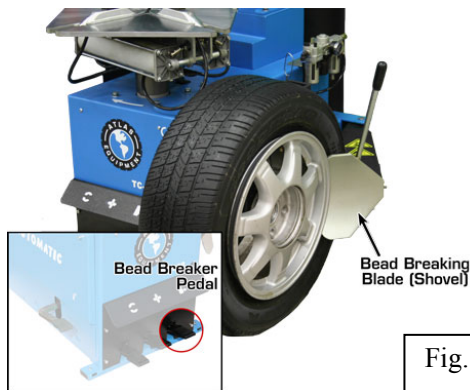

Fig. 5
**STEP 1:** Remove pin, flat washer and snap-ring (322, 320, 319, Fig.5) from the hardware kit.
**STEP 2:** Place the rubber pad (329, Fig.5) on to the Bead Breaker Cylinder shaft (310, Fig.5) and slide it up to the body assembly (2, Fig.3) such that it covers the slot (see photo).
**STEP 3:** Insert the Bead Breaker Arm assembly (321, 323, 315, Fig. 5) into the bracket on the right rear of the body assembly. Slide the pin (322, Fig.5) through the body assembly and through the Bead Breaker Arm assembly (321, 323, 315, Fig5). Install the flat washer and place the snap-ring on the bottom of the pin (322, Fig.5) using snap-ring pliers.
**STEP 4:** Slide the Bead Breaker Arm assembly (321, 323, 315, Fig5) on to the Bead Breaker Cylinder shaft (310, Fig.5) as shown above. Place the flat washer (318, Fig5) and thread the locking nut (317, Fig5) on to the Bead Breaker Cylinder shaft (310, Fig.5).
**STEP 5:** Thread the locking nut (317, Fig5) on to the Bead Breaker Cylinder shaft (310, Fig.5) using a 24 mm deep well socket until about a half inch of thread shows beyond the locknut.
**STEP 6:** Attach the spring (330, Fig.5) on to the side of the body assembly near the Bead Breaker Arm assembly pivot bolt. Insert the brake tool into the hole near the rear of the Bead Breaker Arm (322, Fig.5). Hook the spring with the tool, (330, Fig.5) and pull it toward you. Attach the spring (330, Fig.5) on to the center of the pin found within the Bead Breaker Arm (See photo below).
**STEP 3:** Depress the bead breaker pedal fully to activate the paddle (Fig 5). Release pressure on the bead breaker pedal when the blade has reached the end of its travel and / or when the tire bead becomes free of the rim (“Broken”).
**STEP 4:** Rotate the tire slightly, and repeat the procedure around the entire circumference of the wheel rim, until the bead is completely detached from the rim. (Fig.5)